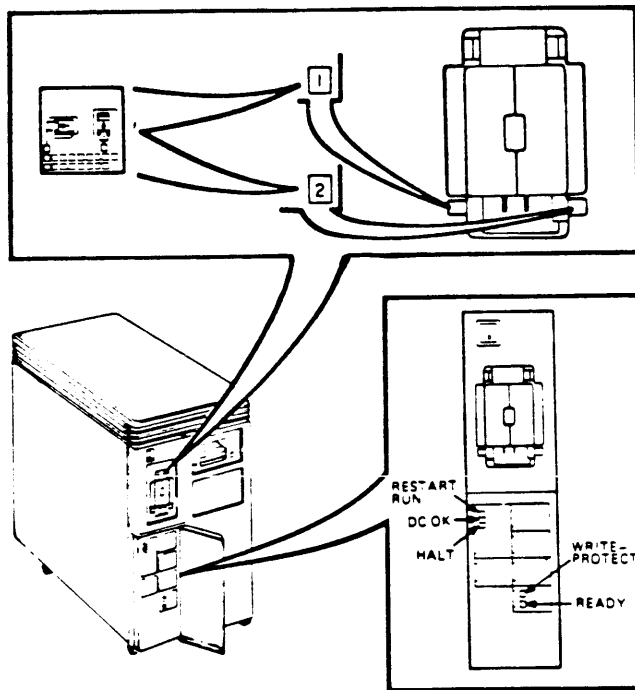

FIGURE 2-8. Labeling Controls on a BA123-Based system.
Step 3: Label the control panel and diskette drive units as shown in Figure 2-8.